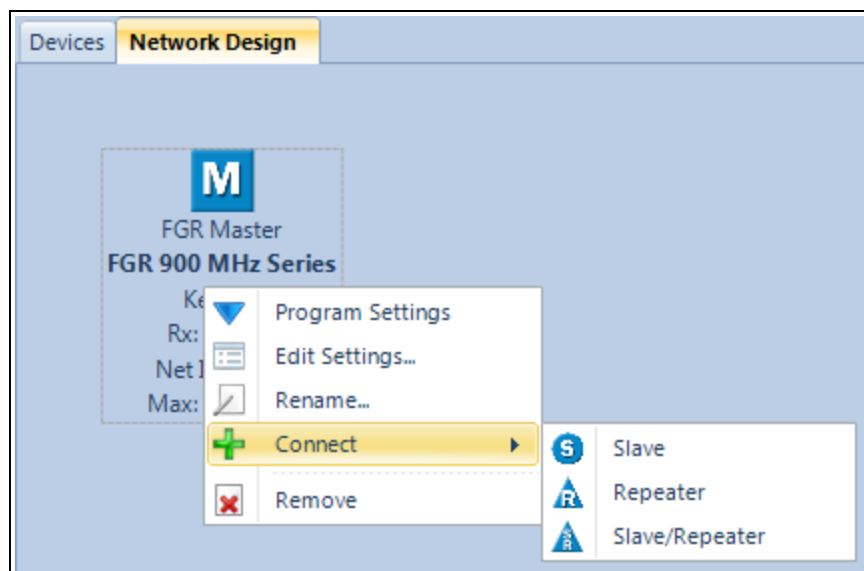

Figure 24: Connect > Select Modem Mode Options
4. Select the modem mode of the device to attach. Figure 24